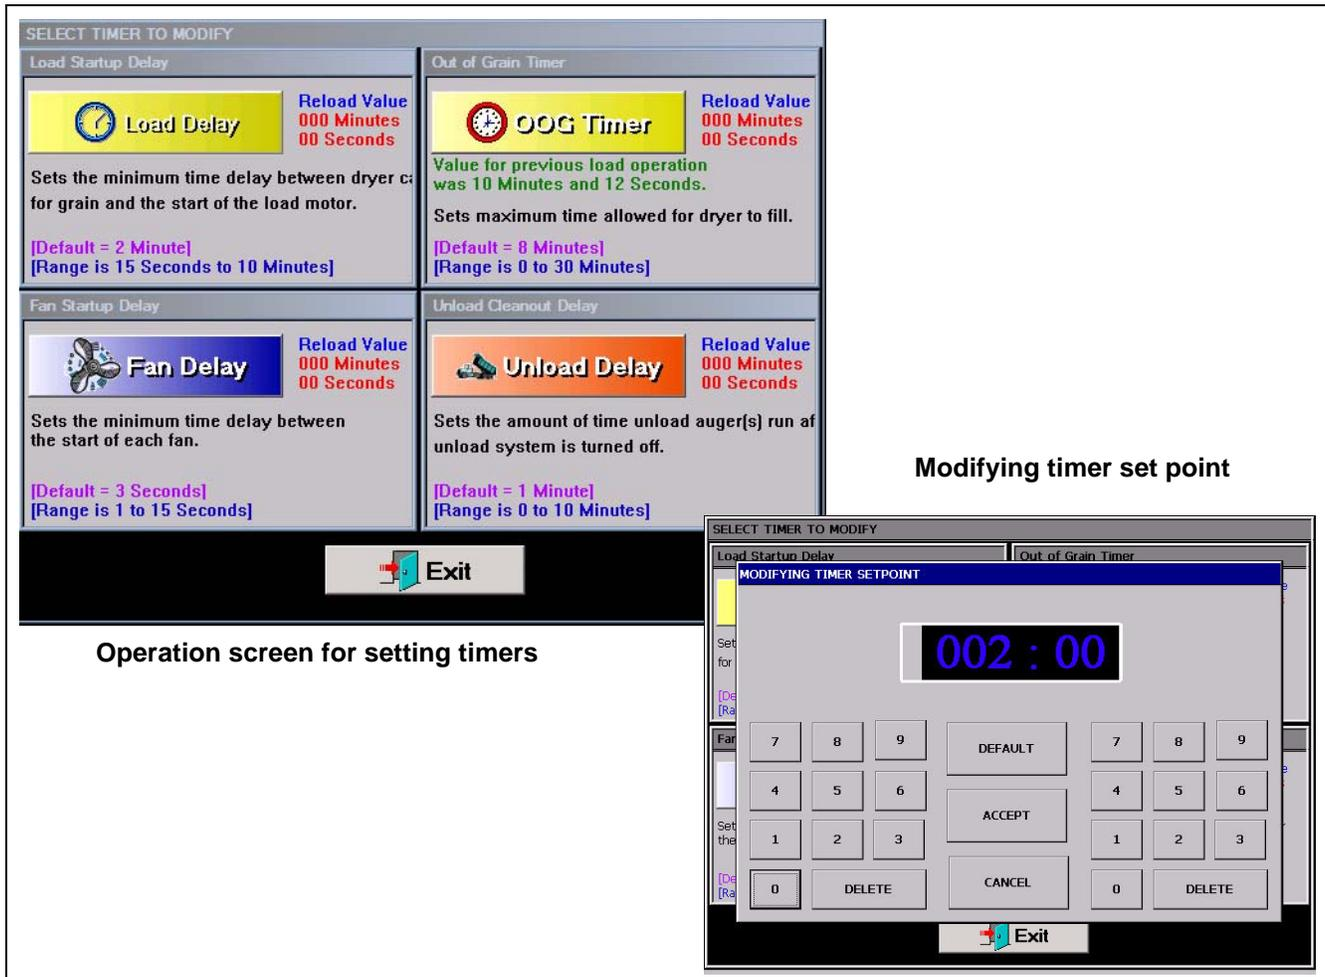

Figure 6E
Setting the timers for the dryer is a simple procedure. To set the timers, touch the  button at the bottom of Operation screen. A new screen will appear called the Select Timers to Modify screen. (See Figure 6E on Page 27.) As you can see there are four (4) timers that you can modify:
To setup a timer touch the button of the timer you wish to modify. The Modify Timer Set Point screen will then be displayed. (See Figure 6E.) Note that there are two (2) number pads on this Modify screen. The left number pad is used to modify the minutes and the right number pad will modify the seconds. Touching the Default button will automatically set the timer to the default set point for that timer. The Accept button will save the timer set point displayed in the time display. Touching cancel will exit the Modify Timer Set Point screen without saving any changes and the timer will stay at the currently saved set point.